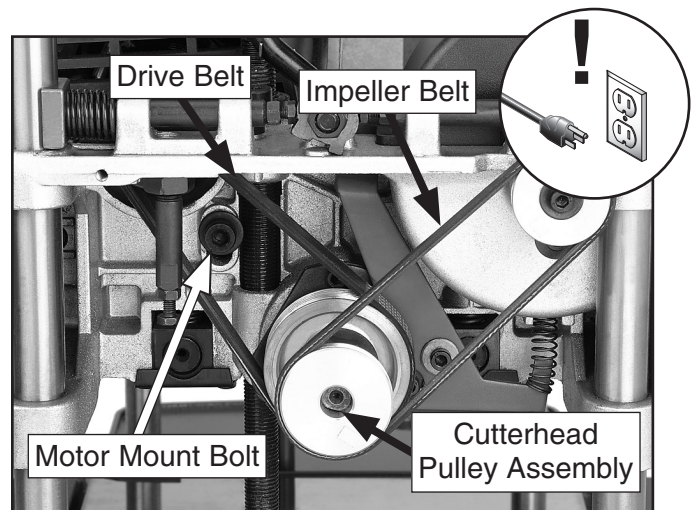

Figure 37. Cutterhead drive components.
5. Loosen the motor mount bolt, shown in **Figure 37**, to release tension on the belt.